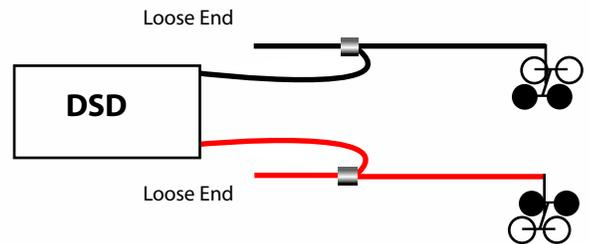

Figure 1
19. Slide a 1/4" piece of 1/8" heat-shrink tubing over the loose end of the red wire "Y" until it covers the 3-wire solder joint. Heat to shrink the tubing and insulate the connection. Repeat this step with the black wire "Y". (Photo 14 and Figure 1)